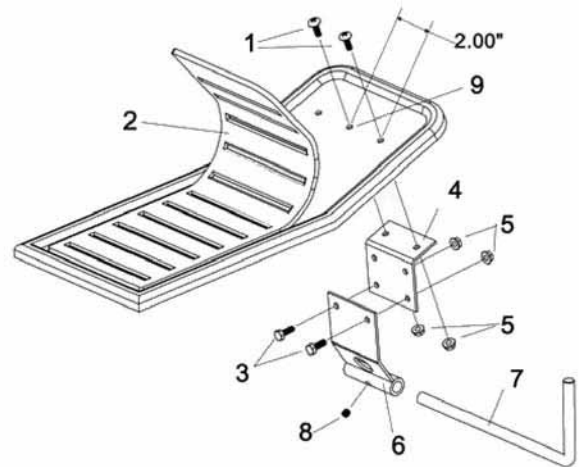
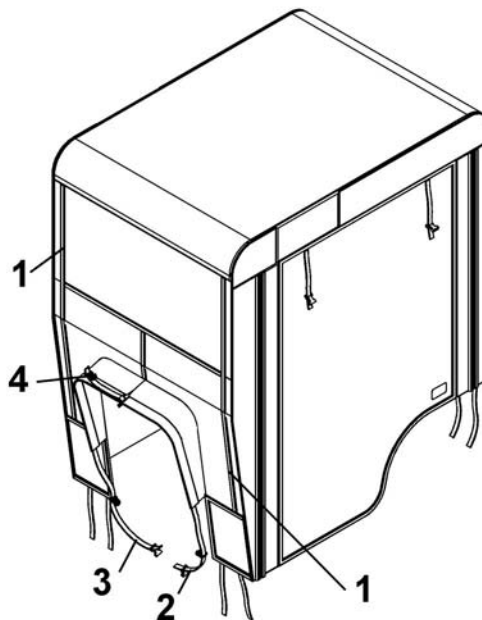

Figure 3
Figure 5
When the location has been determined, drill two 9/32" holes in each footrest. If needed, unclip and lift the rubber pads from the footrests. Install the front attaching plates (fig.3, item 4) under the footrests using two 1/4 x 3/4" machine screws (item 1) and flange nuts (item 5). Tighten firmly.
Attach the straps to the supports (fig.3, item 6) by inserting the buckles (fig.5, items 2 & 3) through the holes on the supports then snapping one end into the other. If the front supports are not used, wrap the straps around the tubes welded on the subframe and snap the buckles.